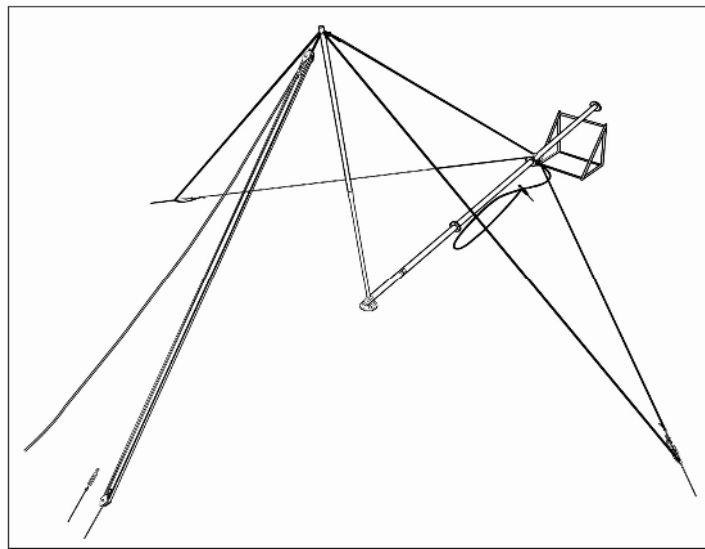

Fig 9 Installation of Guyed Tower
5. First, fix the lower pulley on the front anchor. Fix one end of the longest thin cable wire on the pulley of supporting pole. And make sure the other end drill through the lower pulley , and then drill through the upper and lower pulley. Finally , fix it on a hoist or tractor. (As shown in the Figure 9)